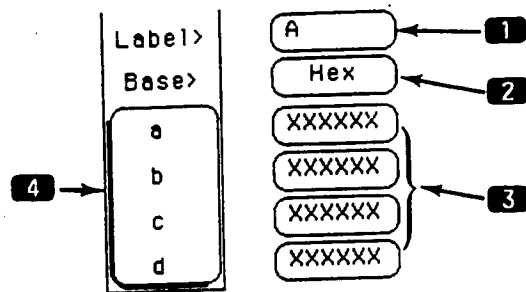

Figure 5-76. Qualifier and Pattern Fields
**Patterns.** The pattern recognizers are in two groups of four: a-d and e-h. If you select one of these two options, the qualifier field will contain only those pattern recognizers. For instance, the qualifier field in figure 5-76 contains only the recognizers a-d.